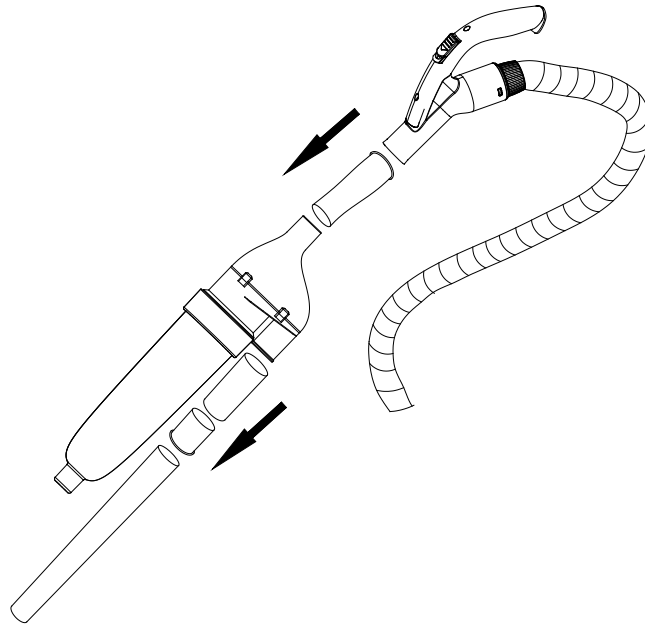

Fig.04
2. If the diameter of the attachment is not fitting with the hose handle and/or the telescopic tube, Please use the additional connectors to connect with the attachment, then connecting with the handle and tube. (Fig.04)